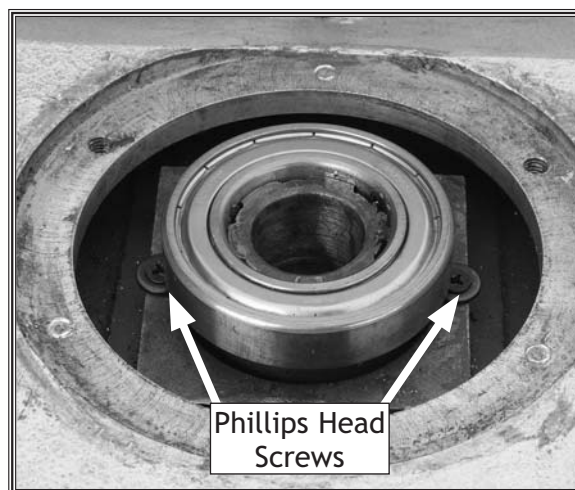

Figure 69. Upper spindle bearing.
10. Remove the Phillips head screws that are directly below the upper spindle bearing (see **Figure 69**).